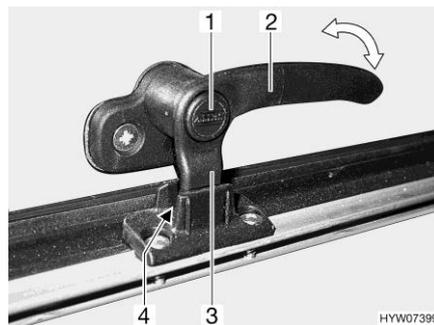
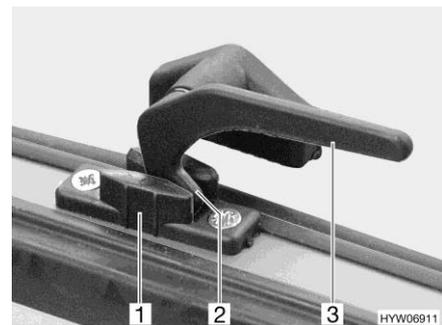

Fig. 72 Catch lever with safety knob in "continuous ventilation" position
Fig. 73 Catch lever in "continuous ventilation" position
- "Continuous ventilation" (Fig. 72 and Fig. 73)
- Press and hold the security button (Fig. 72,1), if present.
- Turn the catch lever (Fig. 72,2 or Fig. 73,3) a quarter turn towards the centre of the window.
- Return the catch lever to its initial position. Move the locking catch (Fig. 72,3 or Fig. 73,2) on the catch lever into the recess of the window catch (Fig. 72,4 or Fig. 73,1).